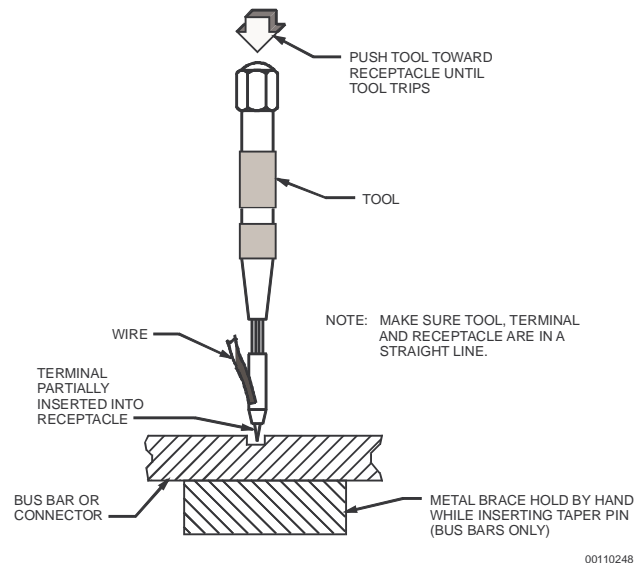

**Figure 8 Inserting Taper Pin Into Insertion Tool**
- c. Place wire barrel of terminal into the slot in the tip of tool. (See Figure 8.) End of tip must butt against the shoulder on the terminal.
- d. Insert the wire through the side of the tip. Hold the terminal in the tip with finger. (See Figure 8.)